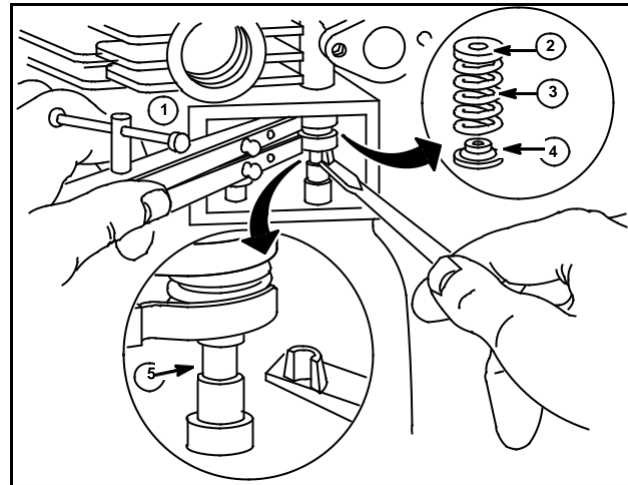
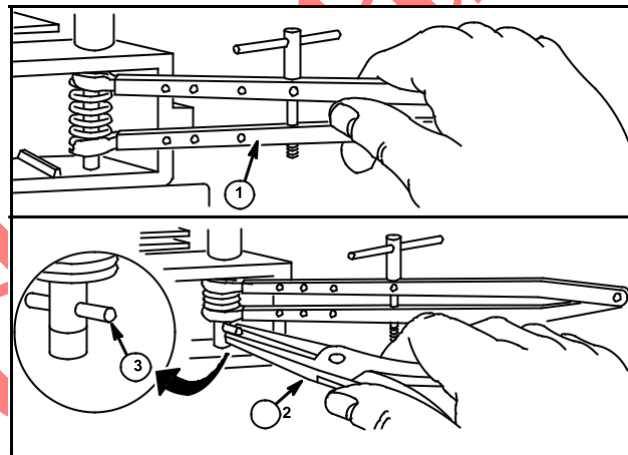

Fig. 6
Fig. 7
1. Use Valve Spring Compressor, Tool #19063, (see [1], Figs. 6, 7), adjusting jaws until they just touch the top and bottom of the valve chamber. Push the compressor in until the upper jaw slips over the upper end of the spring, Figs. 6, 7. Apply grease where shown (6). Inset, Fig. 6 – Cup (2), Spring (3), Collar (4), Valve (5).
3. Remove collars (4) or retainers, Fig. 6, pull pins (3) with needle nose pliers (2), Fig. 7, and lift out valve. Pull out compressor and spring.
2. Large hole of retainer should face toward opening in Tool #19063, Valve Spring Compressor, Figs. 6, 7.